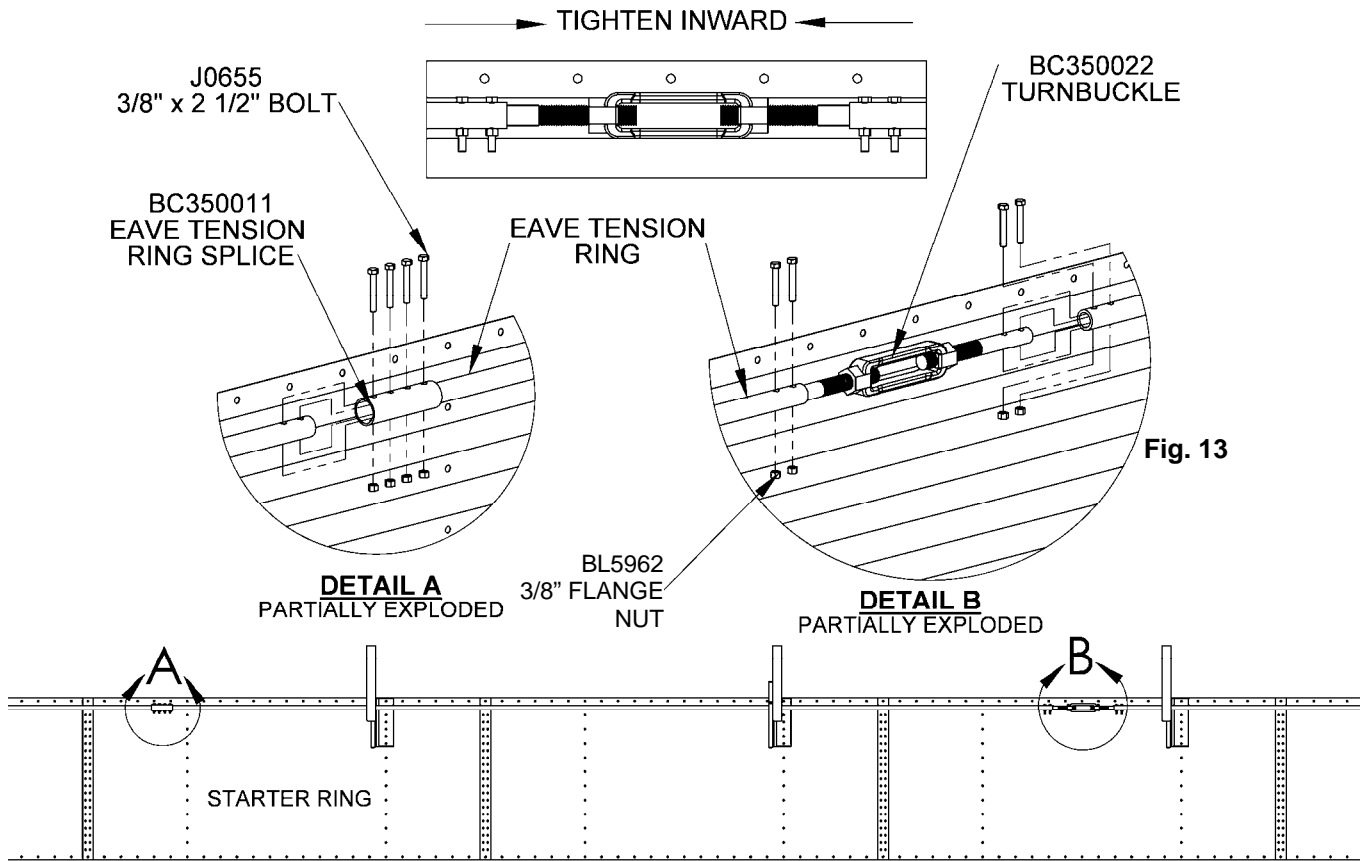

Fig. 13
- Insert eave tension ring sections through sidewall rafter attachment brackets. Install splices and turnbuckles using 3/8 x 2-1/2" bolts and 3/8" flange nuts. See Fig. 13 Details A and B.